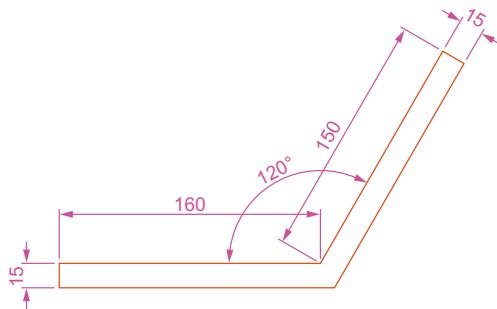

Fig. 17.5 First example – **Changing UCS planes** – pline for extrusion
1. Set **UCSFOLLOW** to **1** (ON).
3. Construct the pline outline (Fig. 17.5) and extrude to **120** high.